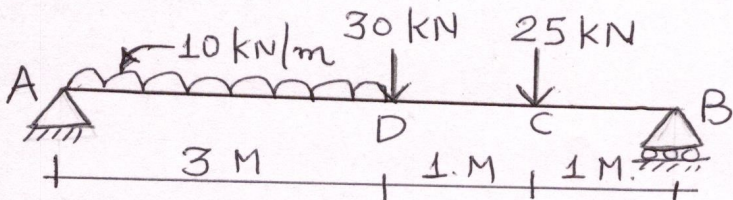

Fig. 3
- (c) Draw shear force and bending diagram for the beam as shown in fig.3 ૦૪